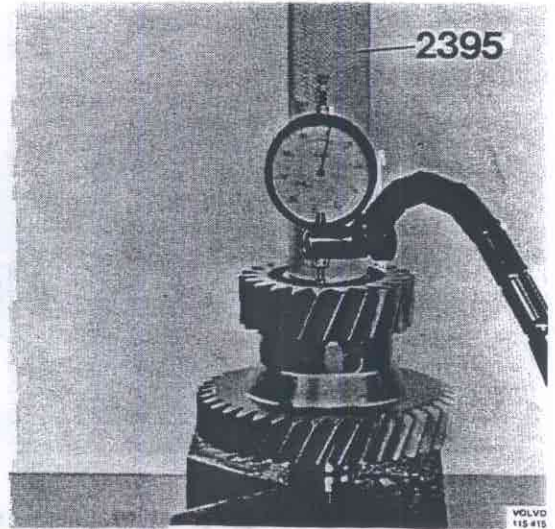

Fig. 43-169. Checking clearance
5. Place the intermediate gear complete in a press and fit 2395 on the small bearing inner race, Fig. 43-169. Press on the bearing using a force of about 1 ton. Check the axial clearance of the gear with a dial indicator. The clearance should be $+0.01 \text{ mm (+0.0004")}$ to $+0.06 \text{ mm (+0.0024")}$. Remove the requisite number of shims in order to get the proper clearance.